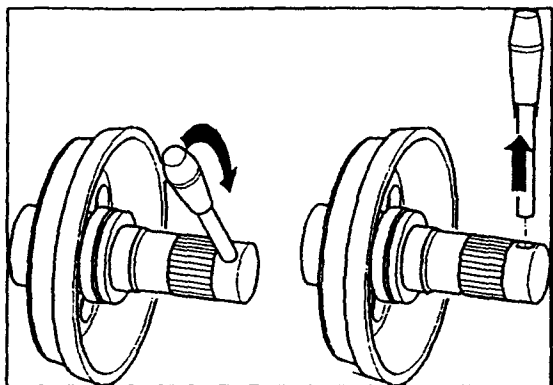

Fig.21
D. Tighten the nut firmly with the removable handle provided (Fig.21).